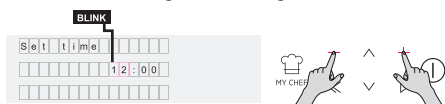

Figure 4
• Set the time by pressing the PLUS and MINUS buttons. Press OK to go ahead. (Figure 4)